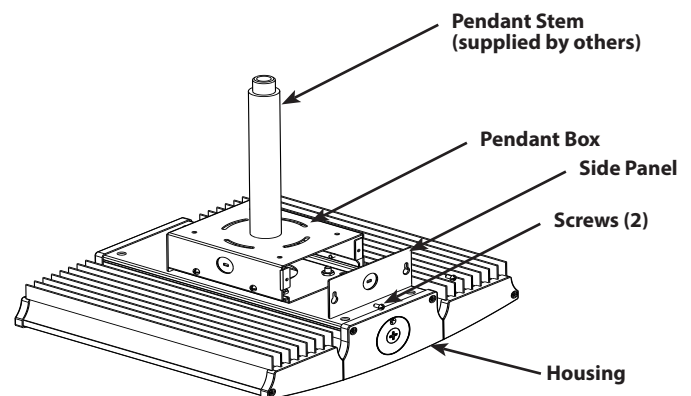

Fig. 1
2. Loosen **Screws (2)** and remove **Side Panel** from **Pendant Box**.
5. Secure the **Side Panel** and tighten **Screws (2)** as shown in **Fig. 1**.
4. Replace the **Side Panel** and tighten **Screws (2)** as shown in **Fig. 1**.